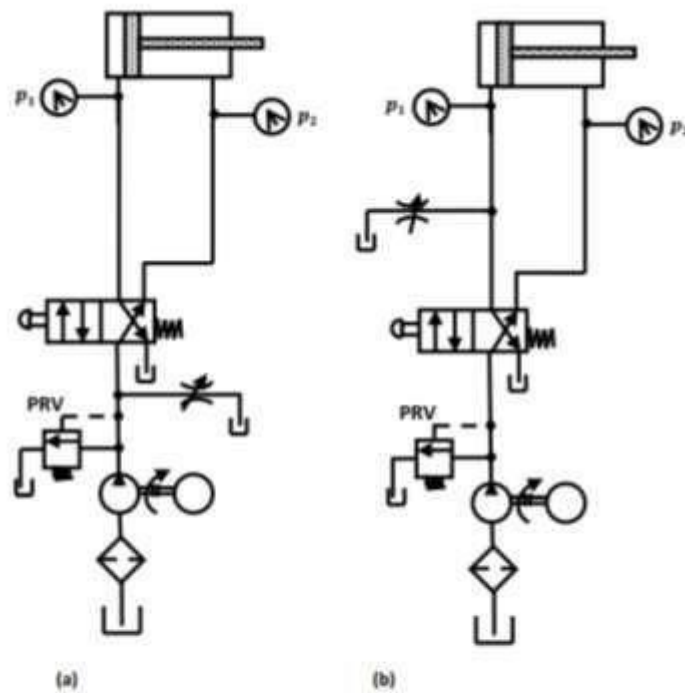

Figure 1.10 Bleed-off circuits:(a) Bleed-off for both directions and (b) bleed-off for inlet to the cylinder or motor.
Three-way valves either block or allow flow from an inlet to an outlet. They also allow the outlet to flow back to the tank when the pump is blocked, while a two-way valve does not. A three-way valve has three ports, namely, a pressure inlet (P), an outlet to the system (A) and a return to the tank (T). Figure 1.10 shows the operation of a 3/2-way valve normally closed. In its normal position, the valve is held in position by a spring as shown in Fig. 1.10(a). In the normal position, the pressure port P is blocked and outlet A is connected to the tank. In the actuated position shown in Fig. 1.10(b), the pressure port is connected to the tank and the tank port is blocked.
Figure 1.10 3/2-way DCV (normally closed). (a) Ports A and T are connected when force is not applied (valve unactuated). (b) Ports A and P are connected when force is applied (valve actuated).